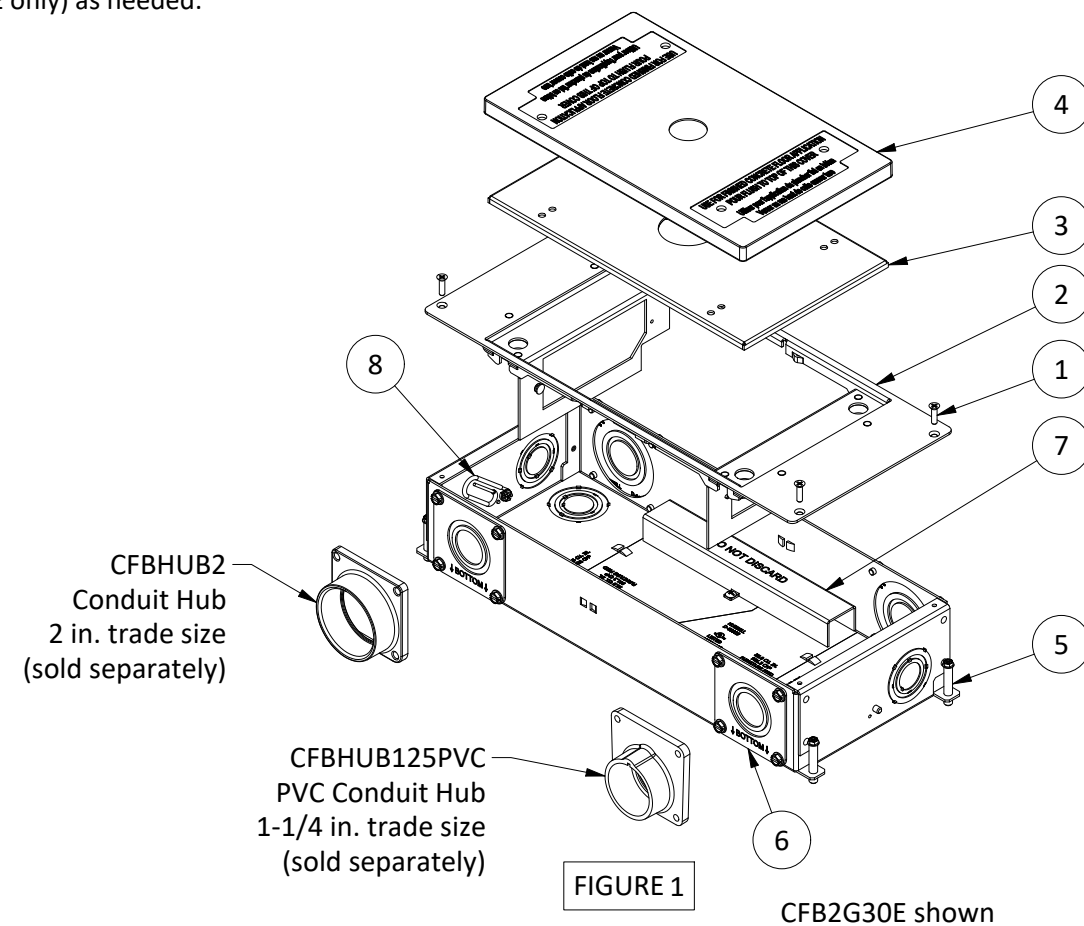

FIGURE 1
BEFORE CONCRETE POUR, SEE FIGURES 1, 2, and 3
4. Install leveling screws [5] as shown in FIGURE 1.